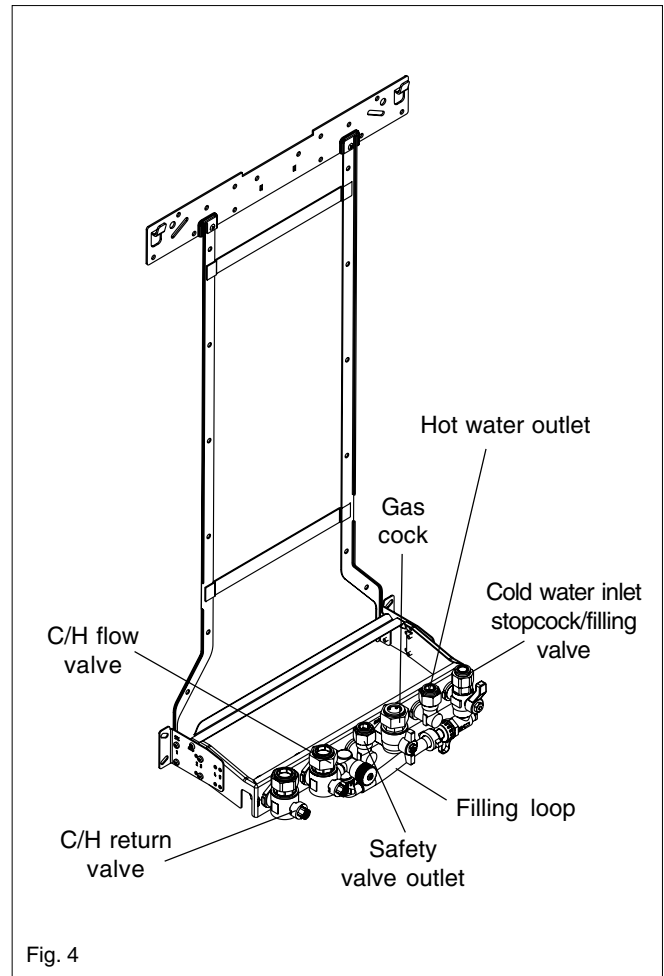

Fig. 4
Info 2 water pressure (fig. 4)
3.1 HOW TO TOP-UP THE SYSTEM PRESSURE (fig. 4)